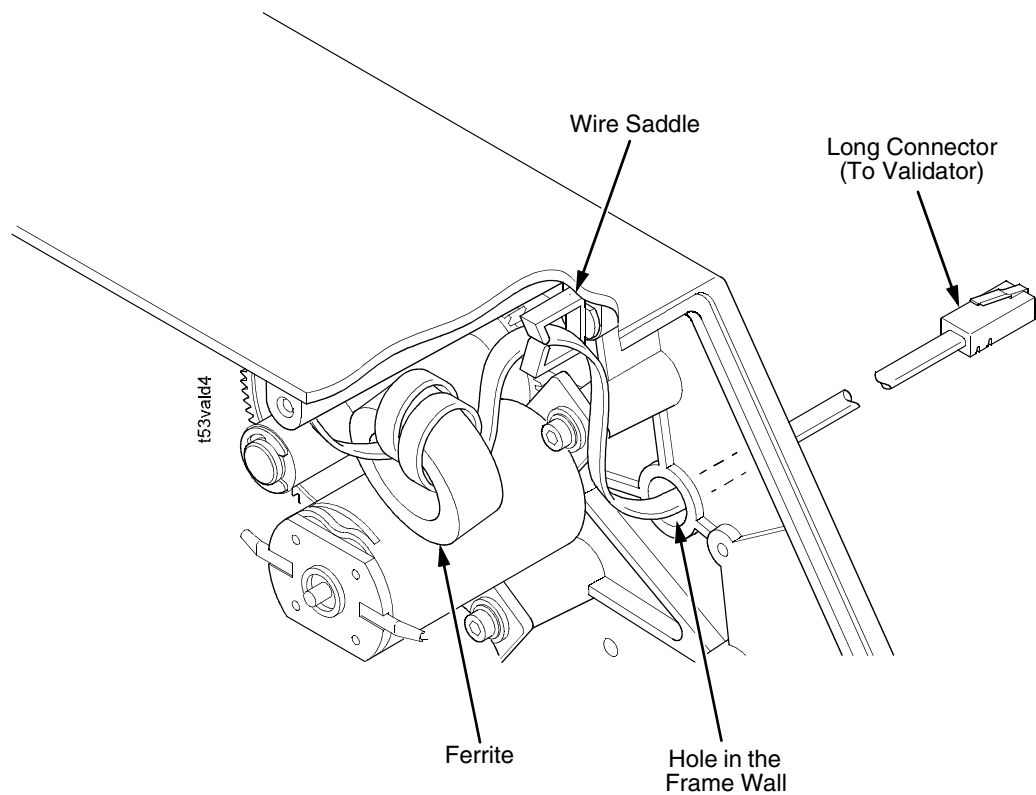

Figure 6. Inserting the Power/Data Cable Through the Hole in the Frame Wall
9. On the electronics side of the printer, insert the long connector end of the power/data cable through the hole in the frame wall. (Figure 6.)